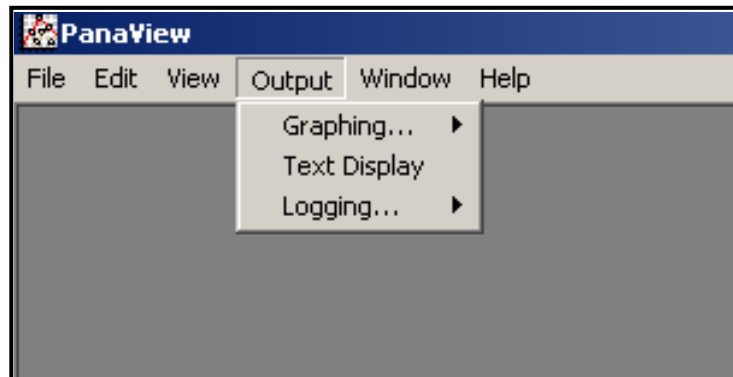

Figure 2: Output Menu
To access PanaView's data handling options, pull down the *Output* menu, as shown in Figure 2.
2. Pull down the *Output* menu and click on the *Text Display* option (see Figure 2 on page 3).
2. Pull down the *Output* menu and click on the *Graphing - New* option (see Figure 2 on page 3).